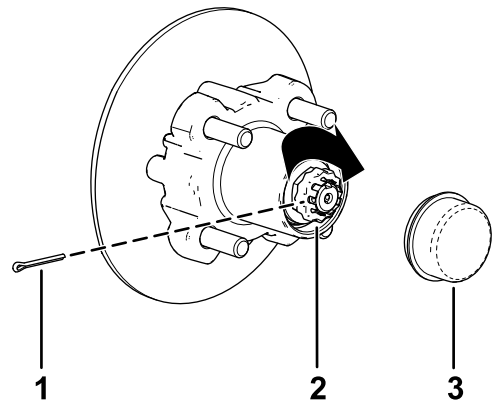

Figure 38
8. Install the retainer over the nut and check the alignment of the slot in the retainer and the hole in the spindle for the cotter pin (Figure 38).
9. Install the cotter pin and bend each leg around the retainer (Figure 38).
10. Install the dust cap onto the hub (Figure 38).